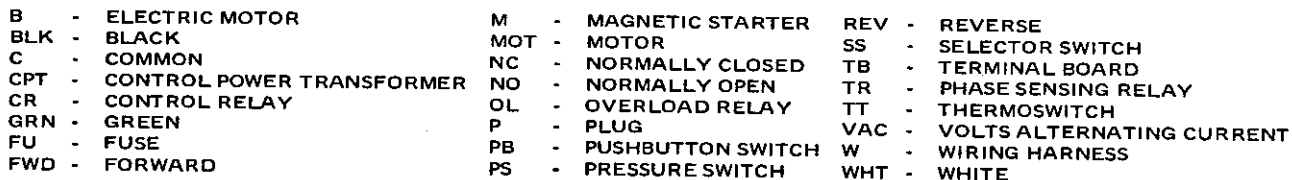

Figure 1-3. Wiring Diagram
stop. A pressure switch inside the control box senses the pressure within the air receiver tank via tubing assembly connection. The switch is normally closed and set to open at 210-215 psi. If an overpressure should occur, with unit operating in automatic mode, the pressure switch will open and interrupt the motor circuit. Reset is automatic after receiver pressure has been relieved to 190-195 psi. Operating in the hand mode, the pressure switch does not interrupt the motor circuit. Refer to Figure 1-3, Wiring Diagram.
- i. The Type MB-2A, Model 4MB-2A, control box assembly (19, figure 1-2) is wired, at the time of manufacture, for 460 VAC operation with proper heaters installed on the overload relay (OL, figure 1-3). A voltage indicator plate is also attached to the control box cover. If the unit is to be operated on 230 VAC, remove the control box assembly cover, change overload relay heaters to the 230 VAC heaters (supplied inside the control box assembly) and rewire for 230 VAC operation as shown in figure 1-3. Also, reverse the voltage indicator plate so that proper input voltage is showing.
b. Connecting Main Power Cable to Power Source. First, observe input voltage indicator plate to determine the voltage wiring of the control box assembly as the unit is now wired. The unit was shipped from the factory wired for 460 VAC. If desired input is 230 VAC, the control box wiring must be changed as follows (refer to figure 1-3):
- (1) Remove the control box cover. Remove heaters (size 1035) from starter overload relay (OL, figure 1-3). Replace these heaters with the 230 VAC heaters (size 1041) supplied inside control box for this purpose.
- (2) Rewire the control power transformer (CPT), H1 to H3 and H2 to H4, as shown on figure 1-3.
- (3) Remove the motor terminal connection box cover and rewire the motor (MOT) as shown on figure 1-3. Reinstall the motor connection box cover.
- (4) Check to make certain main power cable connections at L1, L2, L3; at TB1; and at ground are secure. Reinstall control box cover and reverse the input voltage indicator plate to show 230 VAC wiring of the unit.
If the unit has been in use using 230 VAC power source instead of 460 VAC as factory wired, the wiring change is the reverse of steps 1 through 4 above. In other words, the wiring shall be as shown on figure 1-3 for 460 VAC and using overload relay heaters size 1035.